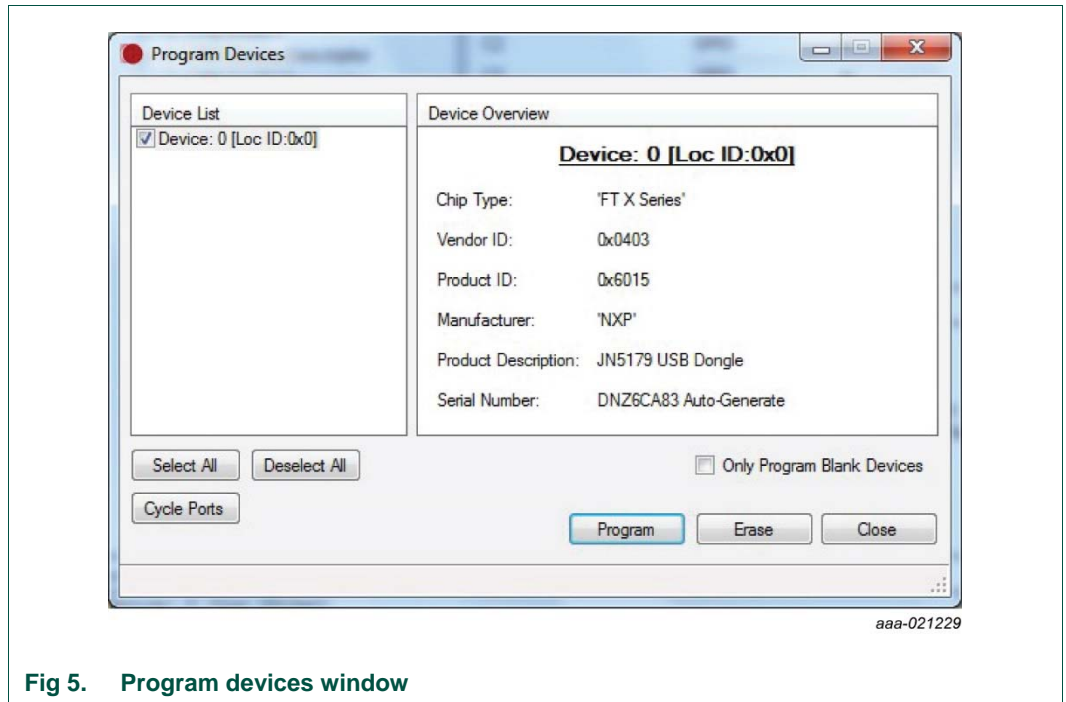

Fig 5. Program devices window
6. On the resulting screen, click Program – see Fig 5